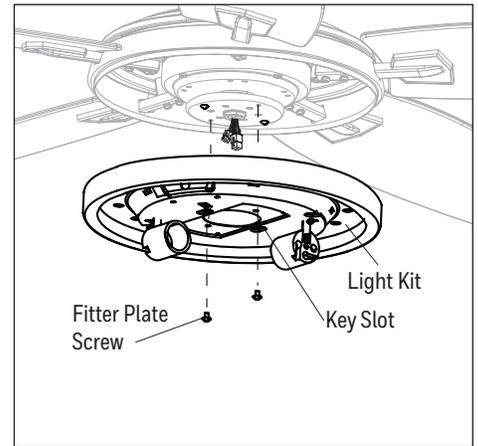

Figure 5.6
- Remove two of the four fitter plate screws located on the underside of the motor assembly and loosen the other two screws. Align the two key slots of the light kit with the loosened fitter plate screws. Rotate the light kit clockwise until the screw heads engage the key slots. Replace previously removed fitter plate screws, then tighten all screws (Figure 5.6).